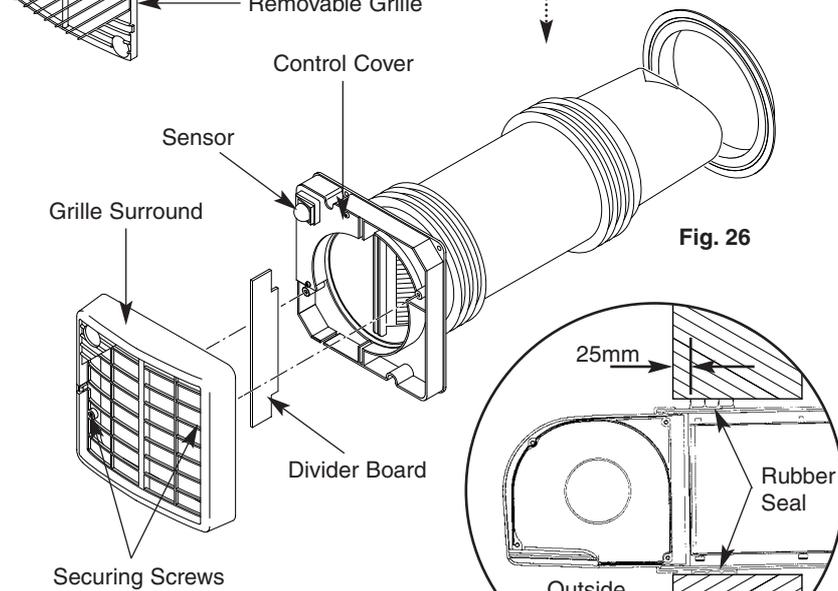

Fig. 26
3. Loosen the two securing screws and remove the grille surround (Fig. 26).
4. Remove the divider board (Fig. 26).